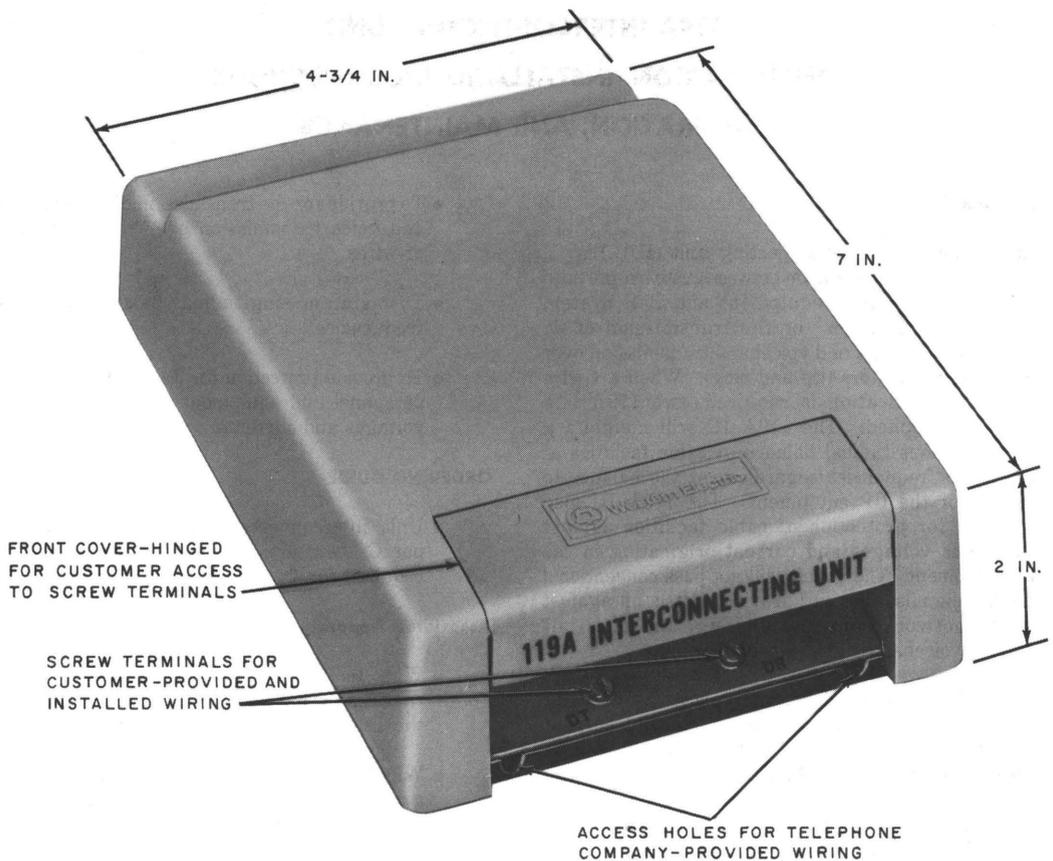

Fig. 1—119A Interconnecting Unit
1.01 The 119A interconnecting unit (IU), Fig. 1, provides a connection between customer-provided (CP) 2-wire terminal equipment and Bell System 2-wire cable facilities for the transmission of dc supervisory signals and voiceband transmission over the same conductors (tip and ring). When a 4-wire to 4-wire application is required, two 119A IUs must be supplied. The 119A IU will maintain a degree of longitudinal balance of cable facilities at voiceband frequencies regardless of the balance to ground of the CP equipment. The 119A IU also provides for protection of cable facilities against hazardous voltages and current originating in the CP equipment. The circuit will not pass conventional ringing signals, does not provide protection against faulty network control signaling, and does not provide voiceband signal power limiting.
- Size—approximately 4 3/4 by 7 by 2 inches (See Fig. 1.)
- (1) Remove and discard Fiberglas tape.
- (2) Remove the snap-off cover assembly and the FT6 circuit pack.
- (3) To install the IU on a wall, position the base pan vertically against the wall with key-hole slot up. The base pan should be positioned so that the customer has unobstructed access to the screw terminals (DT and DR) on the unit which are provided for connection to the CP equipment. Secure the base with two screws (not supplied with unit).
- (4) Remove 2 inches of the cable sheath from the D inside wire and cut off the two unused wires as close to the sheath as possible. Route the D inside wire (right side) and the No. 14 station ground wire (left side) through the access holes and strain relief posts on the base pan (see Fig. 1, 3, and 4).